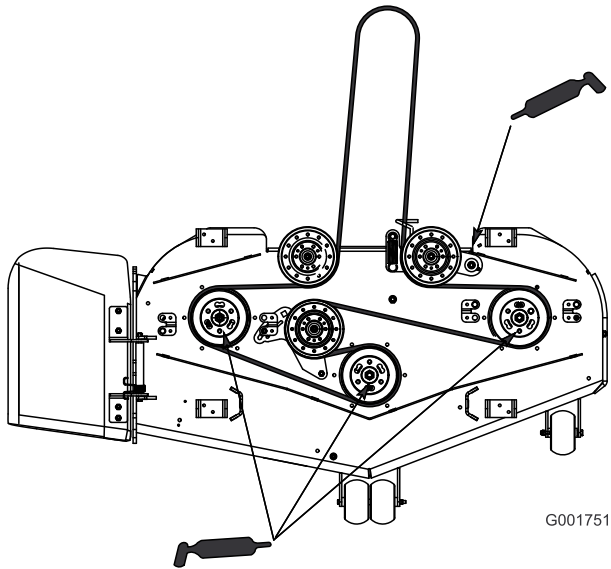

Figure 31
3. Grease the idler pulley pivot (Figure 31).
4. Grease the fittings on the 3 spindle bearings (Figure 31).